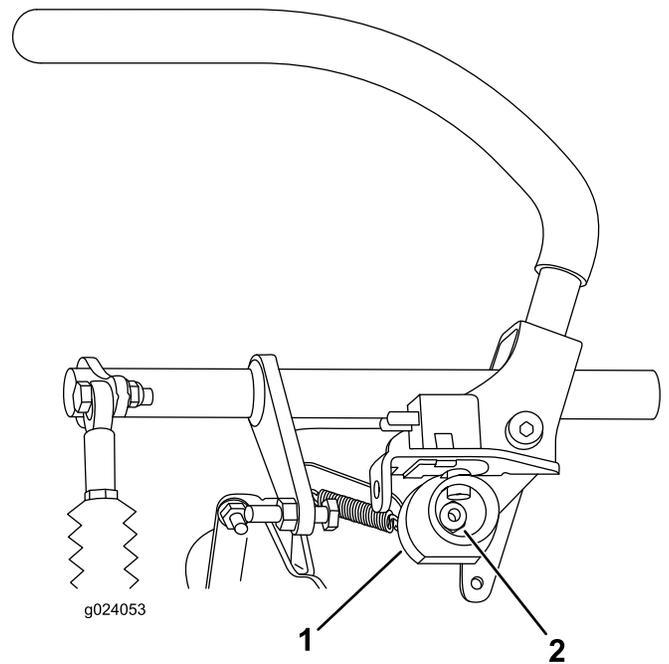

Figure 69
7. Loosen the nut holding the cam (Figure 69).